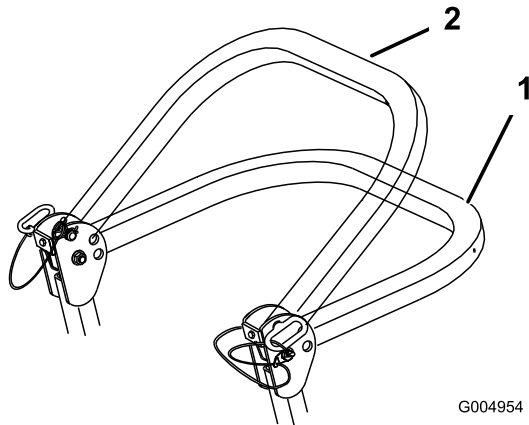

Figure 5
2. Lower the roll bar to the down position. There are two down positions. See Figure 5 for the positions.